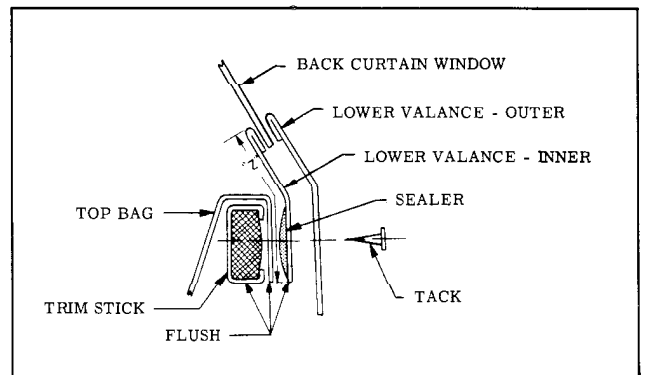
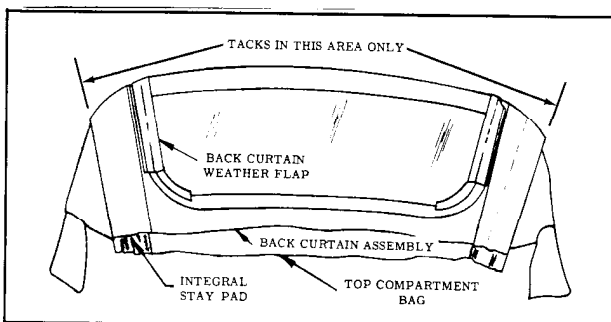

Fig. 17-130 Curtain Attachment to Trimstick
Fig. 17-133 Tacking Back Curtain
back window valance facing down. Apply bead of convertible top sealer along lower edge of back window curtain inner layer in area which will be tacked to rear trim stick. (Fig. 17-130)
11. Tack curtain assembly to rear trim stick. (Fig. 17-133) Tacks should be placed close to each side of every bolt hole in trim stick. Then pierce or punch back curtain assembly for each trim stick bolt. See Fig. 17-130 for tacking of back curtain lower valances at body centerline.